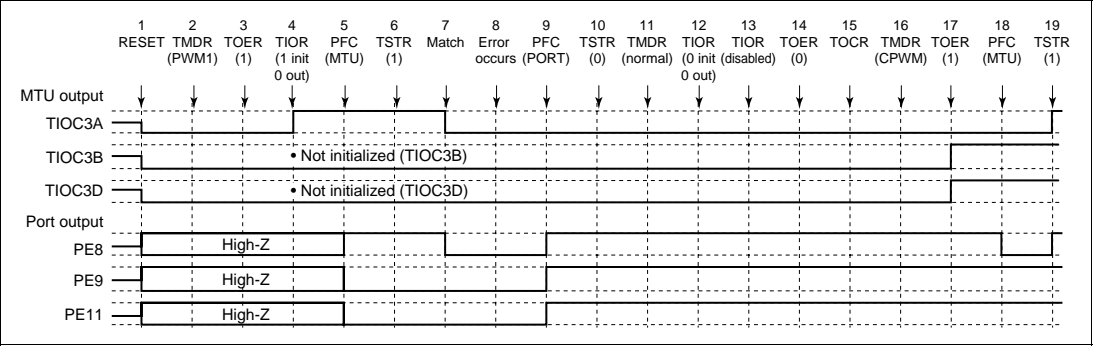

Figure 12.106 Error Occurrence in PWM Mode 1, Recovery in Complementary PWM Mode
(11) Operation when Error Occurs during PWM Mode 1 Operation, and Operation is Restarted in Complementary PWM Mode: Figure 12.106 shows an explanatory diagram of the case where an error occurs in PWM mode 1 and operation is restarted in complementary PWM mode after re-setting.
- 1 to 14 are the same as in figure 12.106.